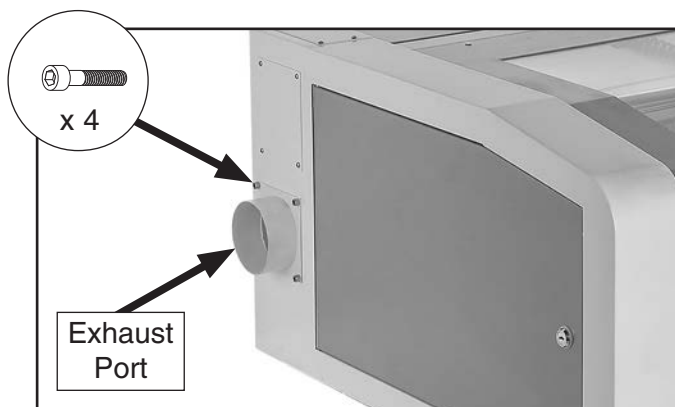

Figure 24. Exhaust port installed.
2. Install exhaust port (see **Figure 24**) using (4) cap screws previously removed in **Step 1**.